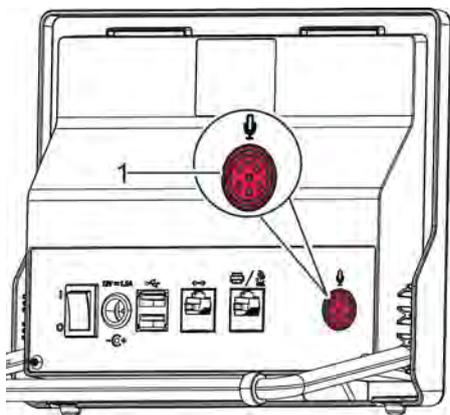

Fig. 42: Removing the microphone cable
2. ➔ Remove the microphone cable from the microphone socket (Fig. 42/1).